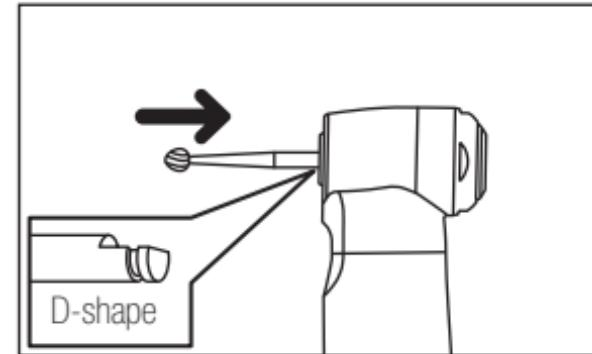

Fig. 1
- 1) Insert and slightly turn the bur until it engages with the latch mechanism. (Fig. 1)